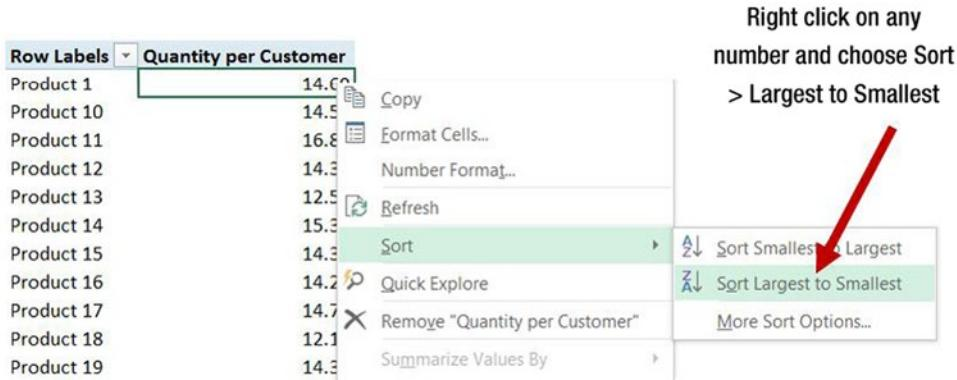

Figure 24-21. Sorting the pivot table by *Quantity per Customer* measure
4. Right-click any Quantity per Customer value and choose Sort ▶ Largest to Smallest. See Figure 24-21.